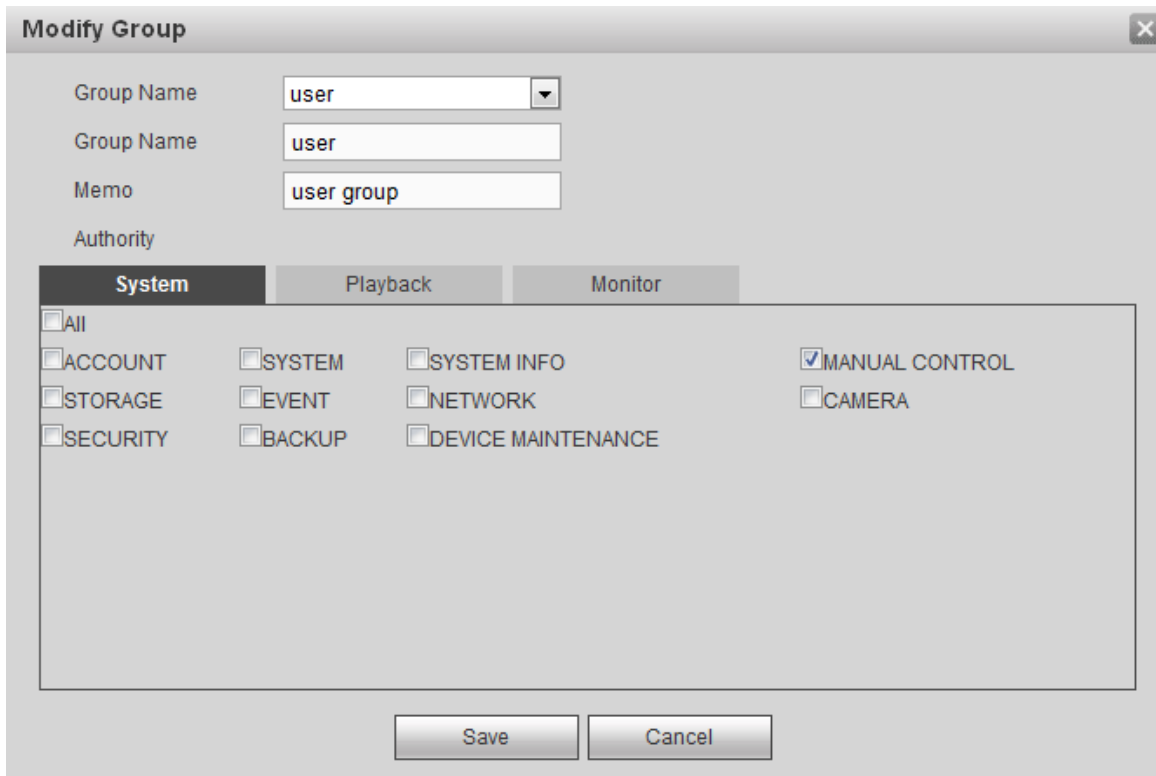

Figure 5-141
Step 1 Select a group and then click . See Figure 5-141.